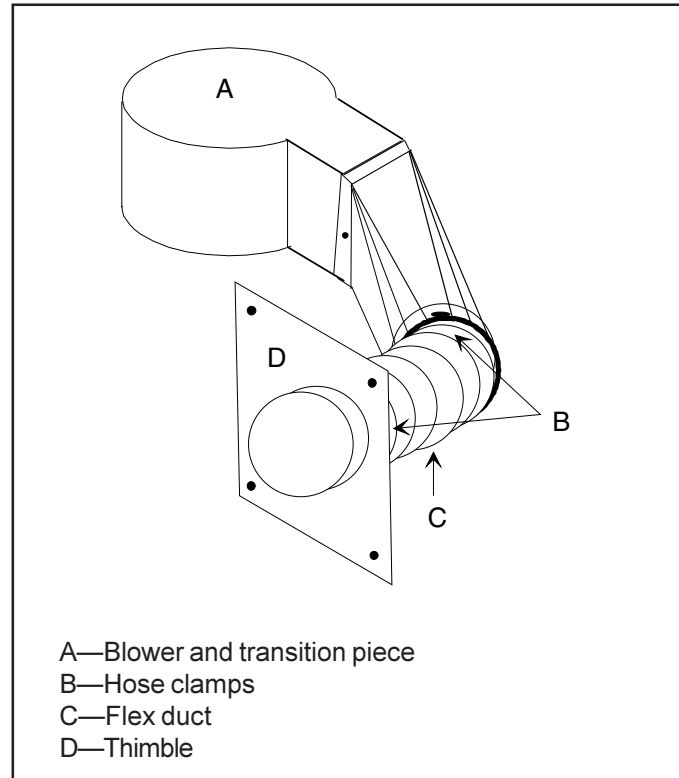

Figure 23
1. See Figure 23. Remove screw in front of blower transition separating blower transition from blower housing.